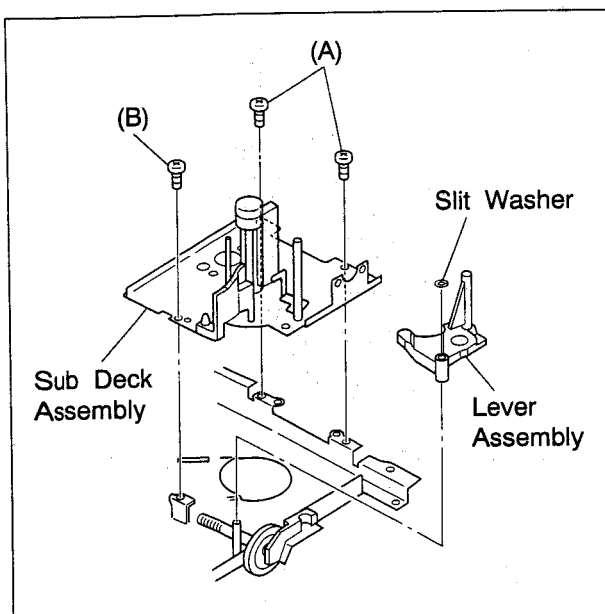

Fig.2-5-8
- (3) Take out 2 screws (A), 1 screw (B) and remove the sub deck assembly as indicated in Fig.2-5-8.